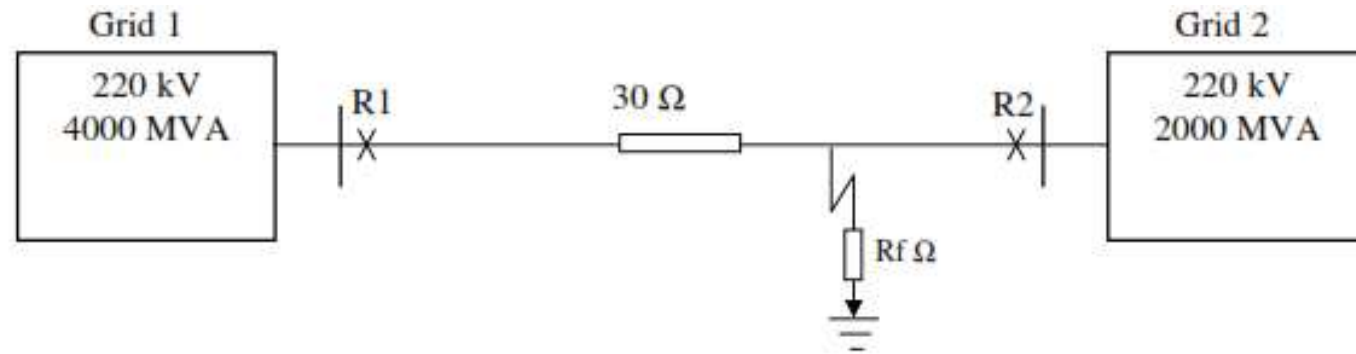

Figure 1: System
- Two independent networks Grid 1 and Grid 2 are interconnected as shown in Figure 1. At terminals 1 and 2, distance relays with the characteristics shown in Figure 2 are installed. Relays R1 and R2 have two zones. Zone 1 includes 80% of the line and Zone 2 includes 100% of the line, considering a fault impedance of 0 ohm (zero ohm). Assume that the systems and line impedances have angle of 70°
- Two independent networks named Grid 1 and Grid 2 are interconnected as shown in Figure 1. At terminals 1 and 2, distance relays R1 and R2 with characteristics given in Figure 2 are installed. Relay R1 has to protect 80% of the line, considering a pure resistive fault impedance of 10 ohms (ten ohms). Relay R2 has two protection zones: Zone-1 includes 80% of the line and Zone-2 includes 100% of the line, considering a fault impedance of 0 ohm (zero ohm).